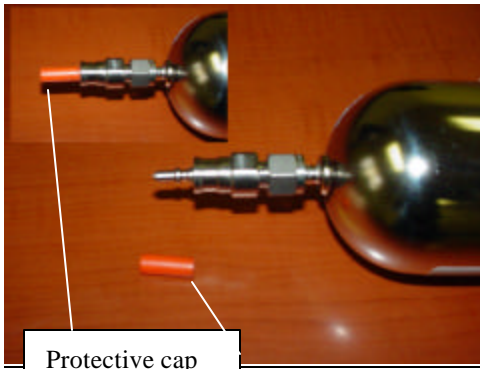
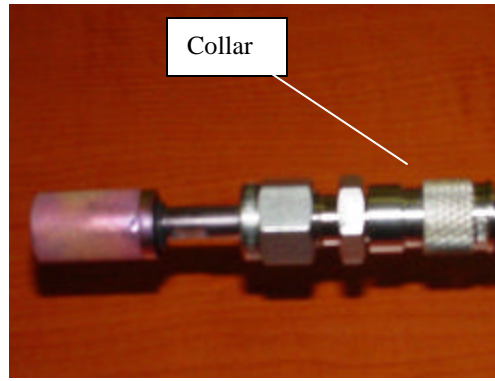

Fig 1: Can with cap
Fig 2: Grab Regulator
The CS1200P is a high purity flow regulation system used to fill the canisters at a constant rate from vacuum pressure. The whole air-sampling unit consists of 2 parts; the 400cc can (fig 1) and a regulator (figure 2 or 3). The cans are under vacuum no power is required to run your sampling.
Equipment: 1) 400cc can (figure 1)
2) Quick grab regulator (figure 2)
- Hold quick grab regulator (figure 2) in one hand and slide the collar back.